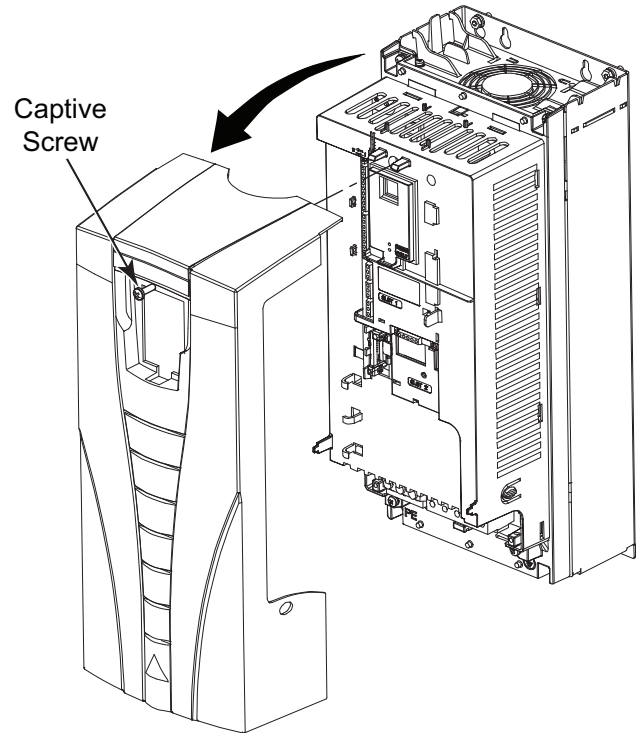

Fig. 37 — Remove ACH550 VFD Front Cover
2. Remove the drive cover (see Fig. 37).